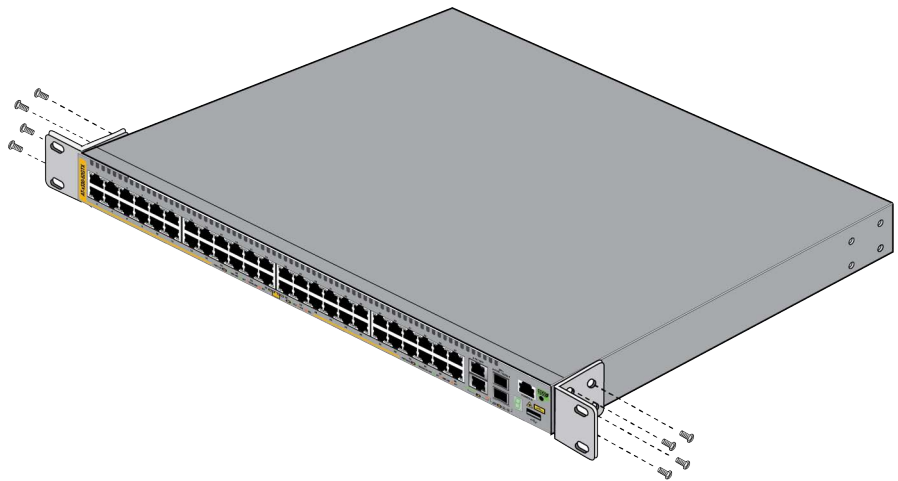

Figure 45. Attaching the Equipment Rack Brackets to the x330-52GTX Switch
2. Attach the wall/equipment rack brackets to the sides of the switch in the selected position, with the eight M4x8mm screws included with the switch. Figure 45 shows the brackets installed so that the front of the switch is flush with the front of the equipment rack.